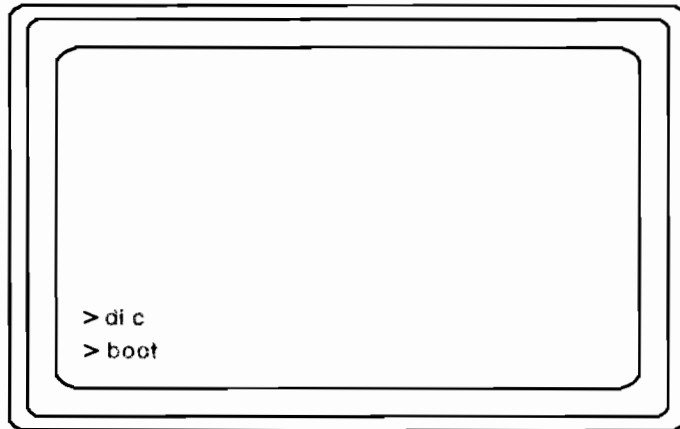

Figure A-21. Booting the System from a Cartridge Tape
4. Enter the commands shown in Figure A-21 to boot the system from the cartridge tape.